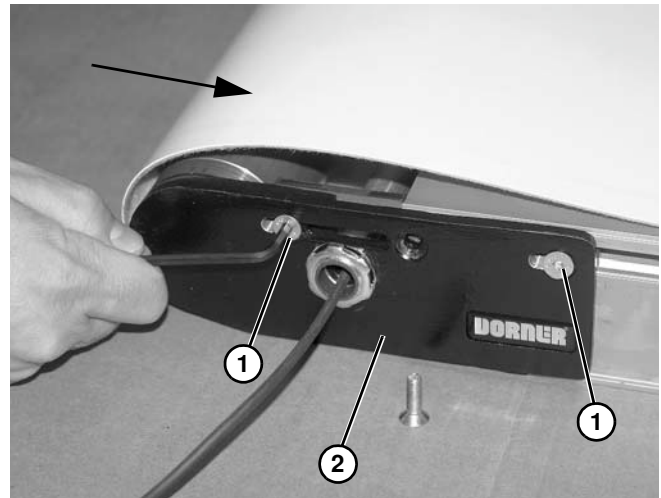

Figure 98
3. Loosen screws (**Figure 98, item 1**) from idrive head plate (**Figure 98, item 2**) on each side of conveyor. Push head plate inward toward conveyor.